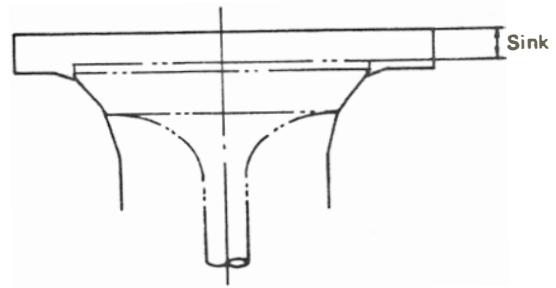

Figure 11
3. If the depth of the seat, Figure 11, exceeds the specified limit page 28, regrind the valve seats or replace the cylinder head.